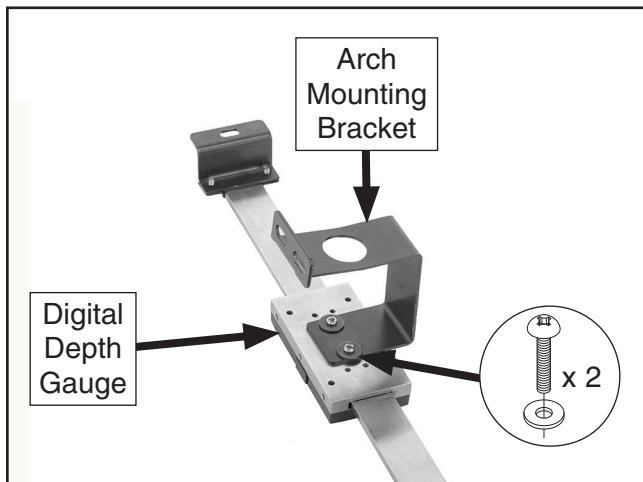

Figure 17. Digital depth gauge attached to arch bracket.
16. Attach digital depth gauge to arch mounting bracket with (2) M3-.5 x 6 Phillips head screws and 4mm flat washers (see **Figure 17**).